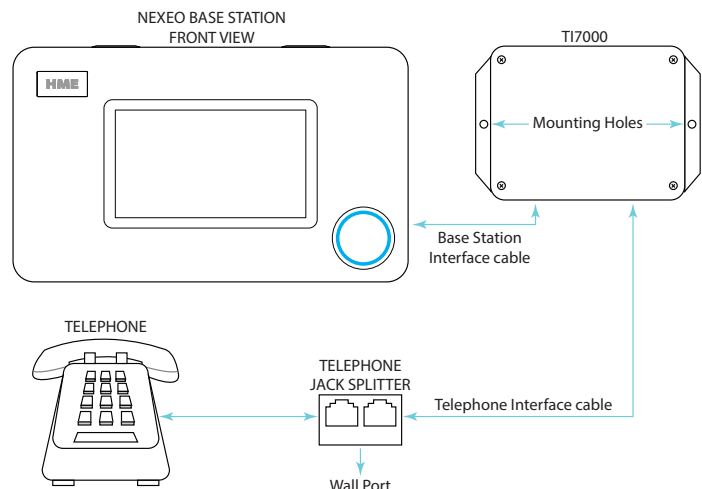

Fig. 11.1
1. Hold the TI7000 against the wall and mark the wall through the two mounting holes on each end of the unit (see Fig. 11.1).
2. Plug the telephone into one of the ports on the telephone jack splitter, see Fig 11.1.
3. Plug one end of the included telephone interface cable into the other port on the telephone jack splitter and connect the other end to the RJ11 port on the TI7000. See Fig 11.1 and 2.